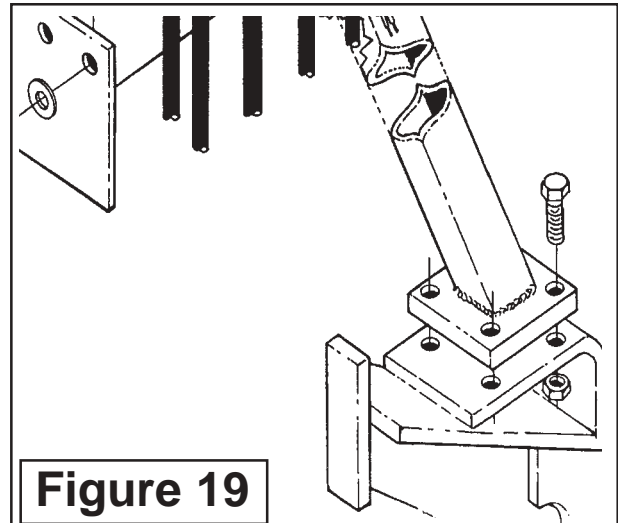
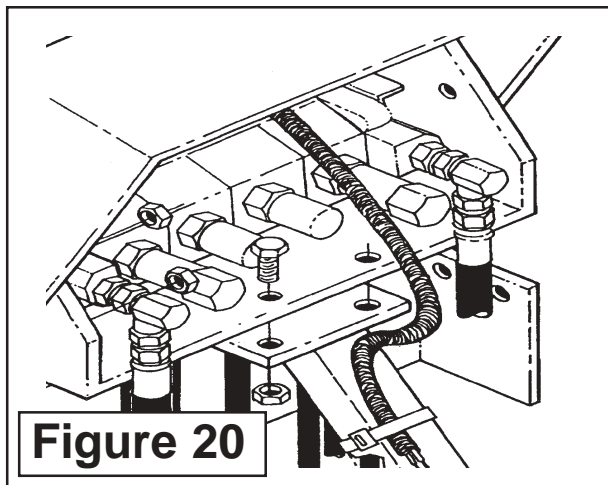

Figure 19
Figure 20
23. Install Hose Fittings into Return Filter in Tank. There is a return filter in the top of the RH side of tank. In the end of the filter housing install a Tee Fitting with an Elbow in it, the tee fitting should point outward as seen in figure 19. In the end of the Tee there will be reducer to allow the installing of a smaller hose. This reducer is where the return hose from the control valve will connect (See Figure 18, 19 & 25). The elbow fitting in the tee should be turned downward at approx a 45 degree angle (see Figure 19 & 25) . Installing these fittings in this way will allow the oil cooler to be slid out for maintenance without hydraulic hoses interfering with cooler.
24. Install Return Filter Pressure Gauge. The return filter pressure gauge screws into the side of the return filter housing. This gauge is a low pressure gauge that is marked in green and red areas. (See Figure 19). The Oil Pressure return gauge has a rubbery tip on top of it, the tip till have to have the tip of it cutoff. Using a utility knife (or suitable knife) cut the tip off now (See Figure 20). This will need to be done before unit is run.
1. Install Valve Stand to Tractor on ROPS Tractor only. Attach Valve Stand to the top of the Right Lift Cylinder Support with (3) 1/2" x 1-1/2" bolts, and (3) 1/2" locknuts (See Figure 19).
2. Attach Valve Stand to Valve Mount Bracket. Attach Valve Stand to the Valve Mount Bracket with (2) 3/8" x 1-1/4" bolts and (2) 3/8" locknuts (See Figure 20).